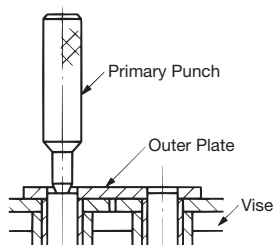

Figure 14: Tapping Pin with Primary Punch
- 1) Using a primary punch suitable for the chain size (refer to the Accessories section of the Tsubaki Drive Chain and Sprockets catalog), place the punch on the head of the pin that was ground down and strike with a hammer. Be sure to strike the pins on the outer link alternately to remove them evenly and at the same time. Strike the pins until they are just about to release from the outer plate (Figure 14).